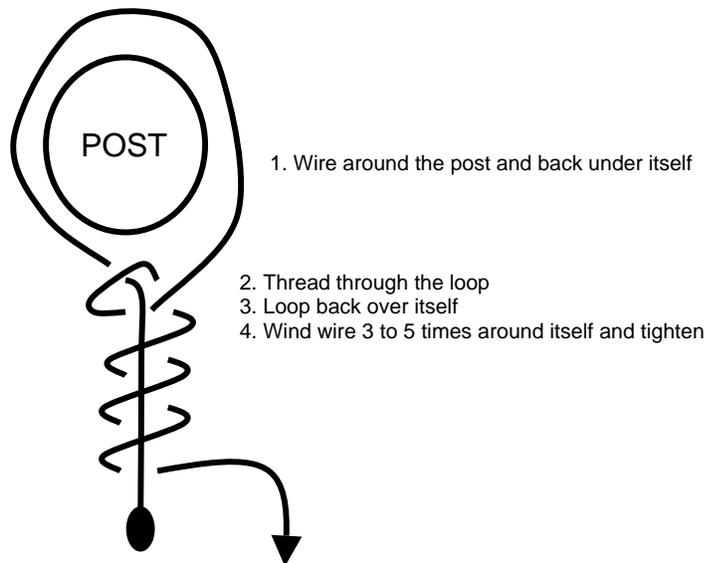

Figure 2. Tying high tensile wire off to a fence post.
- 1) Run the wire around the post and back under itself (step 1 in Figure 2).